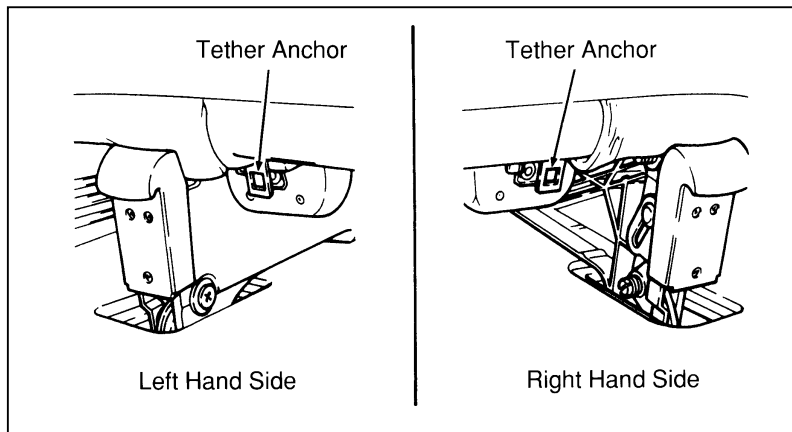

Figure 2: Tether anchor location — second row bench seat (with built-in child safety seat)
- **SECOND ROW BENCH (if equipped) SEATING POSITION** — You must use one of the two tether strap anchor locations (one each side) provided on the back of the seat cushion. (Refer to Figures 2 and 3.)